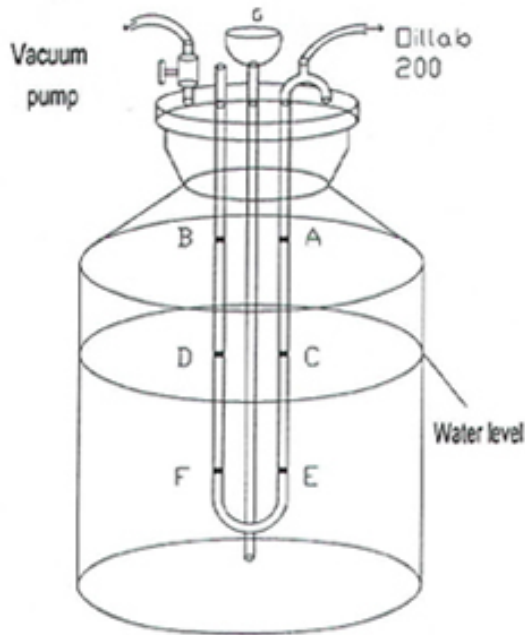

Figure 15: Schematic of System
5. Please refer to Figure 15 for this step. Switch on the vacuum pump and check that the level of the water in the U-tube is correct. Column should reach the **F**, **A** marks. Fill the bottle through the **G** input.